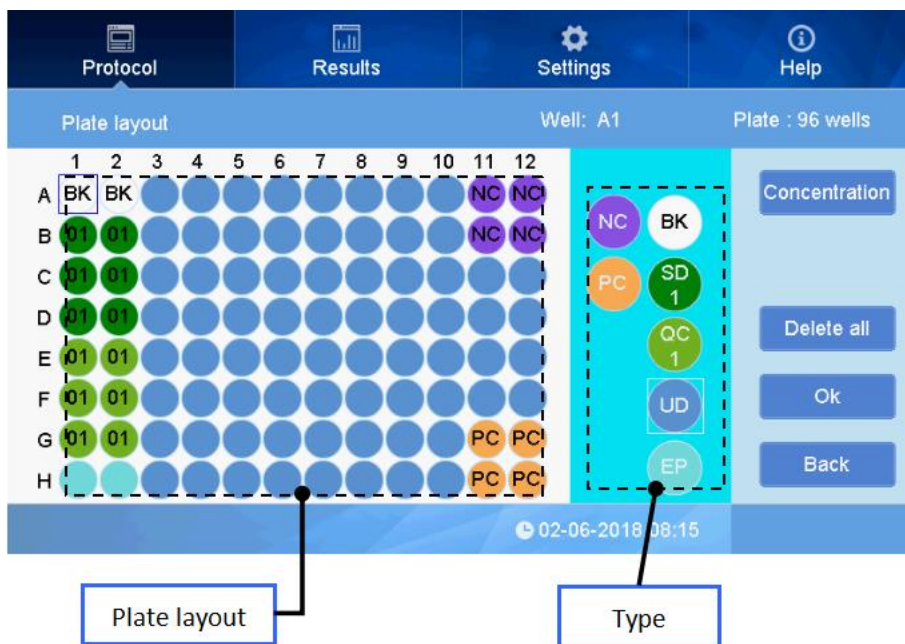

Fig 16
① In the “Plate layout” interface, press “Layout” to set up the layout of the sample plate. On the right side there are some buttons “Concentration”, “Delete all”, “OK”, “Back”, see Fig 16
② Setting the Layout: First choose the type for setting specific wells (the type selected will have a white frame), see UD (unknown sample) in Fig 16, then select well positions on plate layout. The selected positions on the layout will match the color of the chosen type.